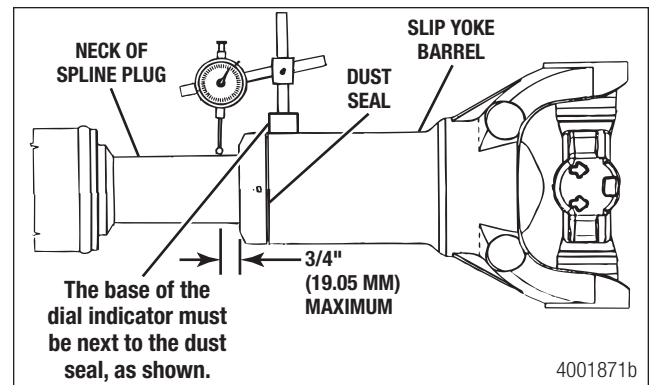

Figure 13.6
2. Firmly mount a dial indicator with a magnetic base onto the slip yoke barrel next to the dust seal. Figure 13.6. The dial indicator must not move when checking for slip yoke looseness or the measurement will not be correct.
3. Extend the dial indicator arm from the base, so that it contacts the neck of the spline plug within 3/4-inch (19.05 mm) from the dust seal. Figure 13.6.